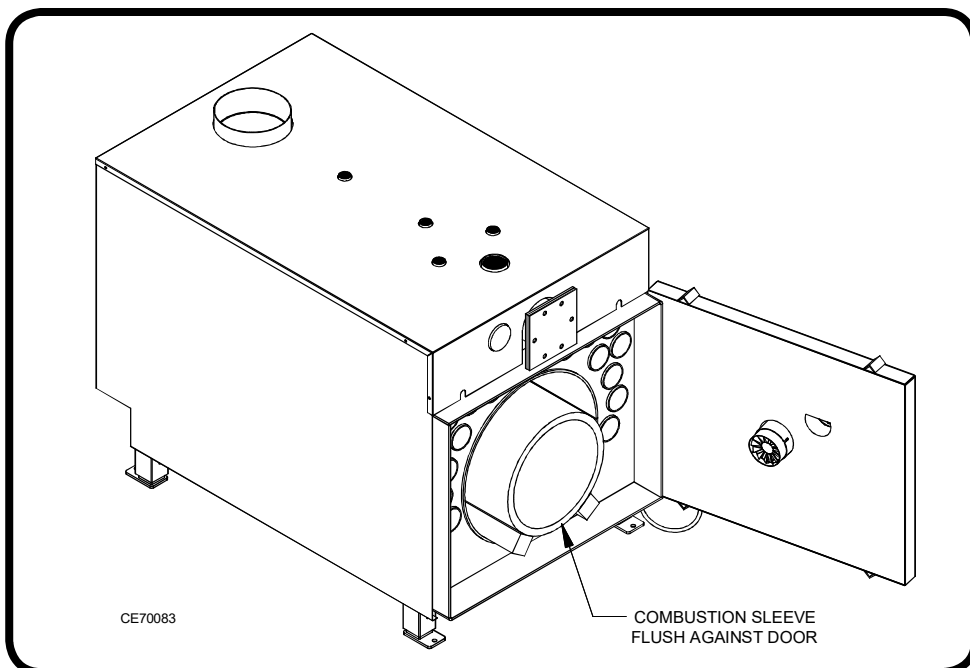

Figure 3: Proper Position of the Combustion Chamber Sleeve
- (1) Refer to Figures 3 and 4 to view the proper position of the combustion chamber sleeve.
- (2) Open the front door of the boiler by loosening the four bolts and swinging the door open.
- (3) Place the 3"x3"x20" support blocks on the bottom of the combustion chamber as shown.
- (4) Place the combustion chamber sleeve on top of the support blocks and flush with the front door.
- (5) Close the front door and secure the four bolts.